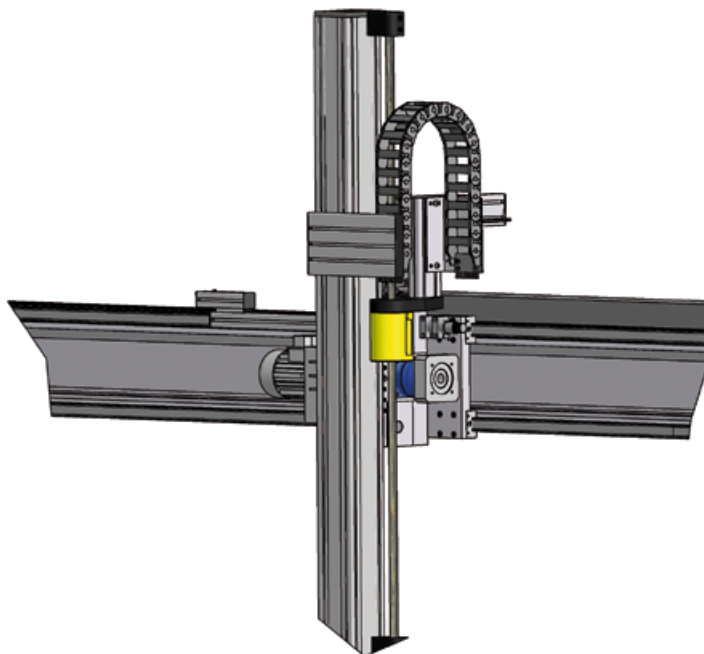

Figure 8.1 — Lifting - Axis with safety break
- Safety break (Chapter 6.9) for vertical axis (Figure 8.1)